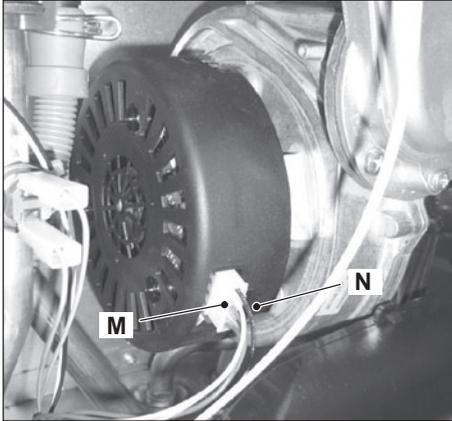

Fig. 9.7
- Disconnect the connector of the fan M by pressing the plastic hook N placed on the rear side of the connector (Fig. 9.7).